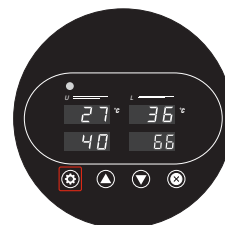
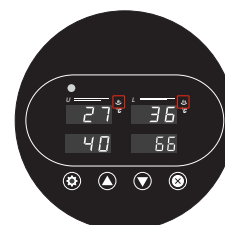

Fig. 9
Fig. 10
9. Press Set **10** button once more (Fig. 9) to record all control panel settings. The platens start heating, and the heating icons are now displayed on the screen (Fig. 10).